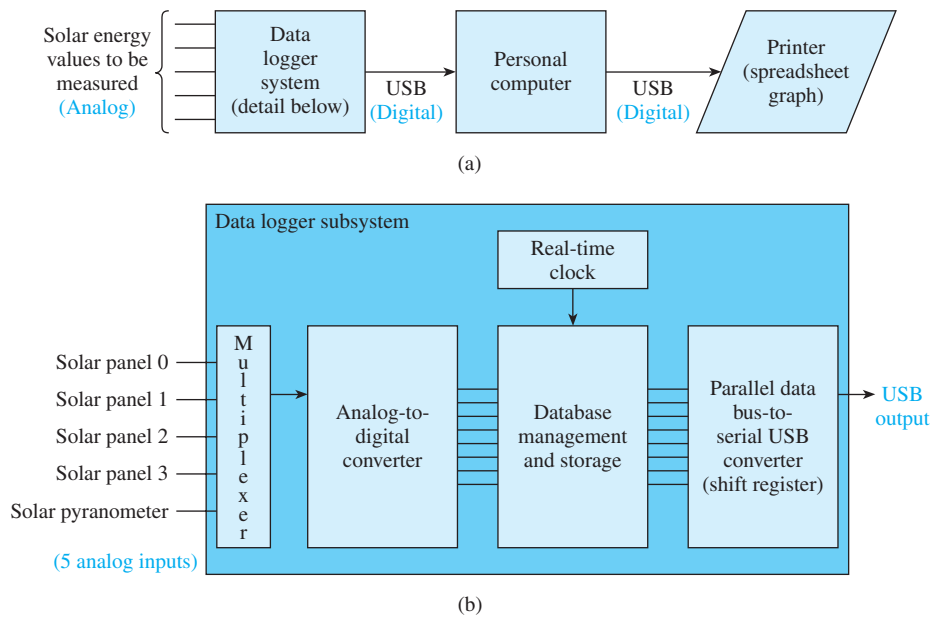

Figure 1-5 Solar radiation data-logger system: (a) system block diagram; (b) data logger subsystem.
Another application of digital representations of analog quantities is data logging of alternative energy sources. It is very important for energy technicians to keep track of the efficiency of their energy-collection systems. In the case of the solar-collection system shown in Figures 1-5(a) and (b), system efficiency can be determined by dividing the number of watts produced by the solar photovoltaic (PV) panels by the total solar energy (irradiance) striking the panels. However, since all naturally occurring quantities like solar, wind, temperature, and pressure are analog values, we need to convert them to a digital representation before they can be understood by a computer system.